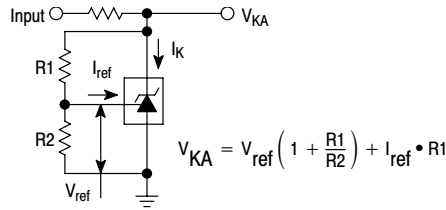

Figure 2. Test Circuit for $V_{KA} > V_{ref}$
(refer to Figure 2) the total dynamic impedance of the circuit is defined as: $|Z_{KA}'| \approx |Z_{KA}| \left(1 + \frac{R1}{R2} \right)$
6. The dynamic impedance Z_{KA} is defined as $|Z_{KA}| = \frac{\Delta V_{KA}}{\Delta I_K}$ When the device is programmed with two external resistors, R1 and R2, (refer to Figure 2) the total dynamic impedance of the circuit is defined as: $|Z_{KA}'| \approx |Z_{KA}| \left(1 + \frac{R1}{R2} \right)$